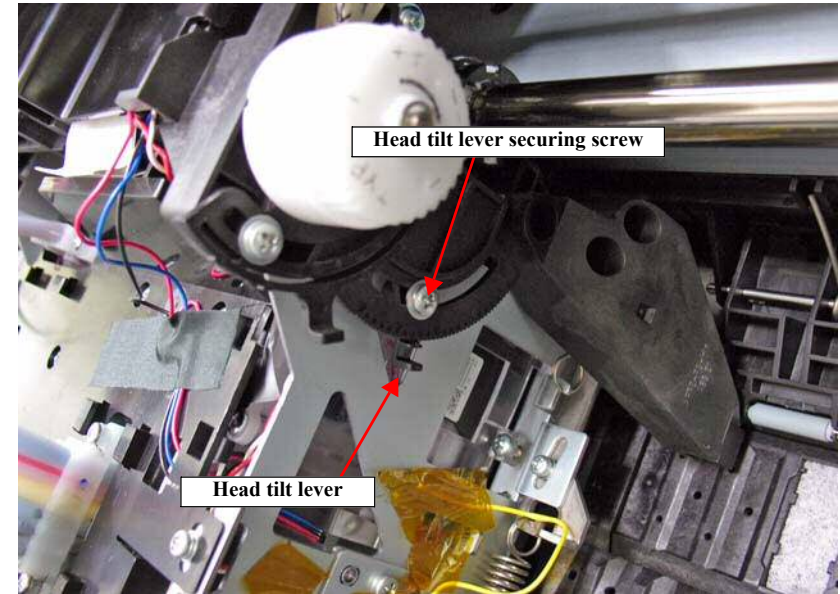

Figure 5-36. Head tilt lever
8. Loosen the head tilt lever securing screw shown in Figure 5-36.